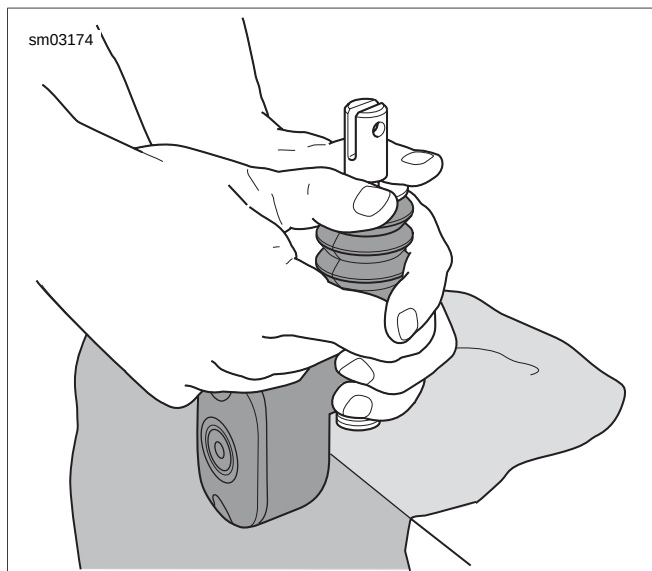

Figure 2-56. Removing Clevis
3. See Figure 2-56. Push down on large flat washer to compress spring. While holding the spring in a compressed state, remove retaining ring from groove in clevis and then carefully release spring. Discard retaining ring.